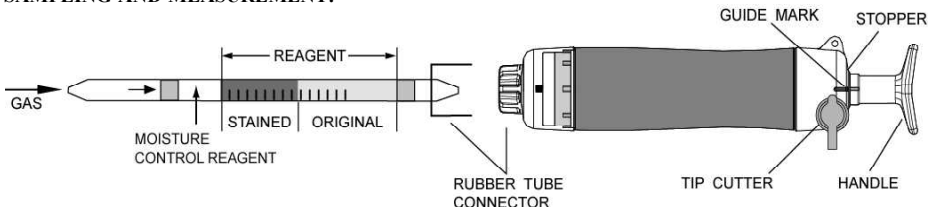

Fig.1
- ② Insert the detector tube into aspirating pump securely as shown in Fig.1. (Arrow mark shall point to the pump.)
- ③ Align the guide marks on the shaft and stopper of the aspirating pump.
- ④ Pull the pump handle at full stroke until it locks and wait for 0.5 minutes or until the completion of sampling is confirmed with the flow indicator of the pump (See descriptions about the flow indicator in the instructions of the pump).
- ⑤ On completion of sampling, read the scale at the maximum point of the stained layer.